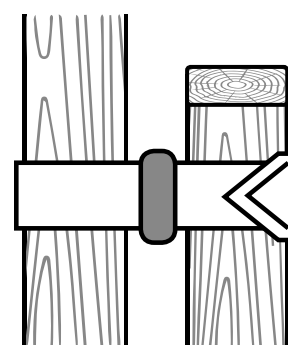

Fig 3
The Tree Tie needs to be positioned 20 mm ( $\frac{3}{4}$  inch) below the top of the stake (fig3) so as to prevent the possibility of the tree rubbing against the stake in windy conditions.
4) The Tree Tie can now be positioned on the tree stake and tree around 20 mm ( $\frac{3}{4}$  inch) below the top (fig3) of the stake and firmly tightened so as to prevent it slipping or allowing the tree to rub inside the tree tie strap or against the top of the stake. The shape we are making with the tree tie is that of a figure '8' (fig2) with the open buckle side to the ground stake and the closed loop around the tree with the spacing collar between the stake and tree.